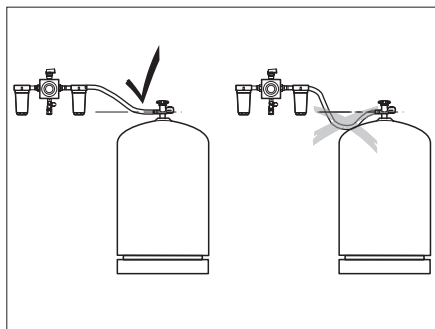

Fig. 81 Routing the high-pressure hoses
- When routing the high-pressure tubes ensure that the tubes rise continuously (Fig. 81).